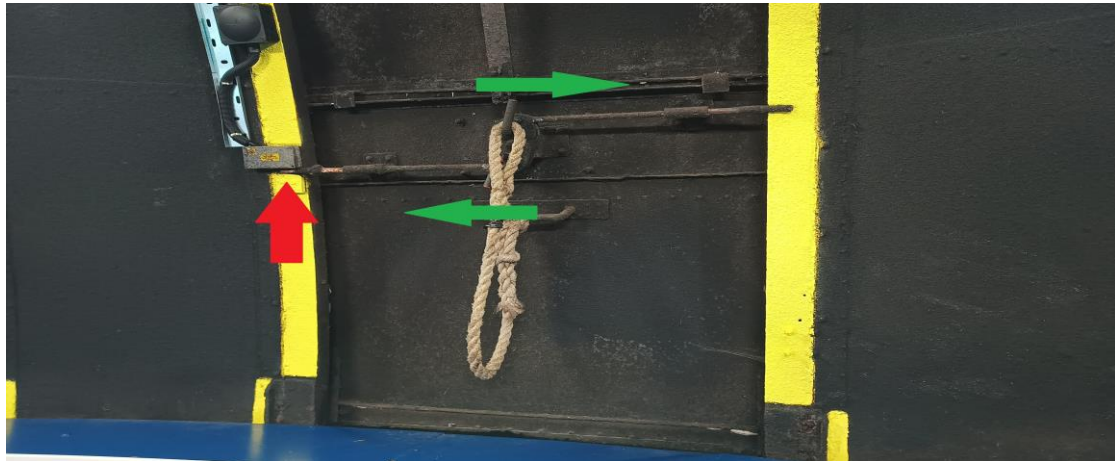

Fig. 26: Trap Door locking lever pins (green arrows) & Interlock switch (red arrow)
10) Now close the aperture trap door (Fig. 26) (if open) by pulling on the rope and pulling the door in towards you. **(Be careful as it is heavy and needs a firm pull by hand. The use of the small steps may help).** Once it's pulled up then use the locking lever to twist close the pins in the direction of the green arrows to engage with the yellow painted dome frame sections:
This is more than likely because the trap door lever pin is not fully closed and fully engaged with the interlock switch (See fig. 26). Open and firmly close it again ensuring it is FULLY and FIRMLY engaged!